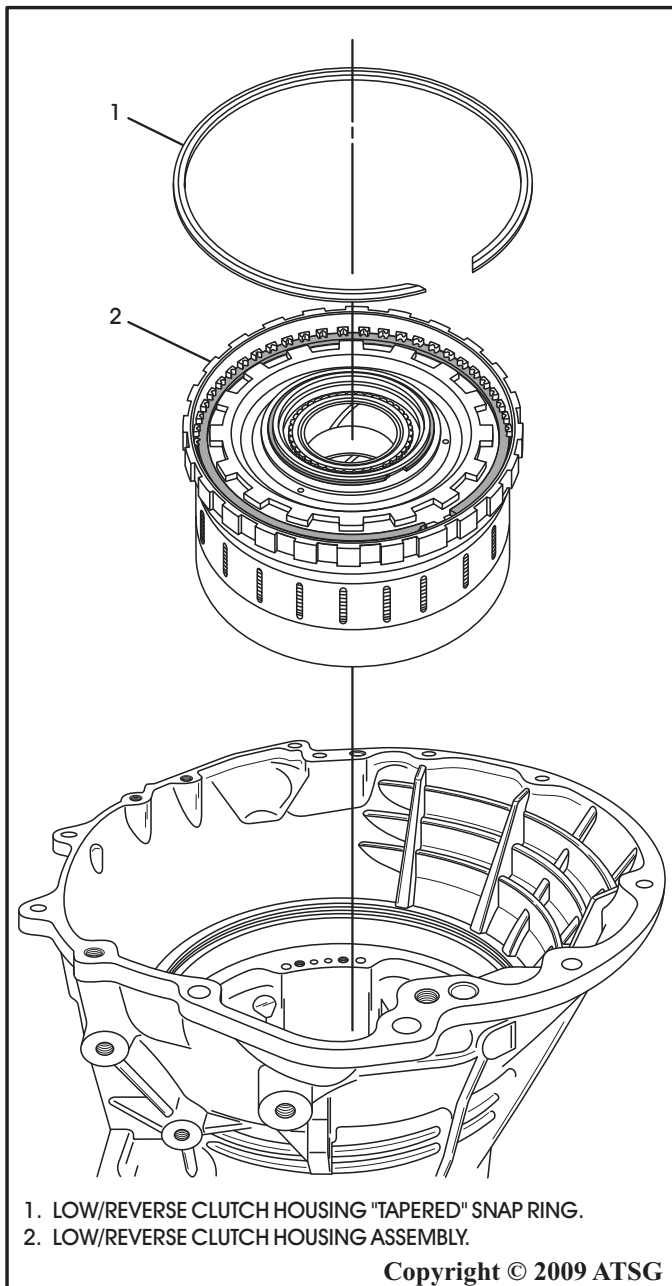

Figure 111
12. Install the low/reverse clutch housing into the transmission case as shown in Figure 111. The clutch housing has one lug that is wider than all the rest to orient it in the case with the feed hole toward the valve body.
13. Install the tapered snap ring into the groove in the case just above the low/reverse housing and ensure that it is fully seated (See Figure 111).